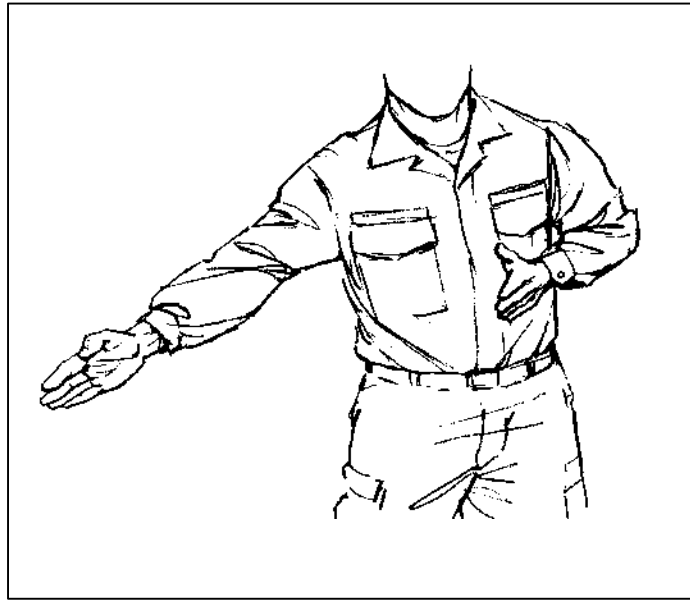

Figure 3-13. Arm-and-hand signal for GO.
(5) GO (Figure 3-13). The rappel master extends an arm with elbow locked, fingers extended, and thumb along the index finger, and he points directly at the rappeller.